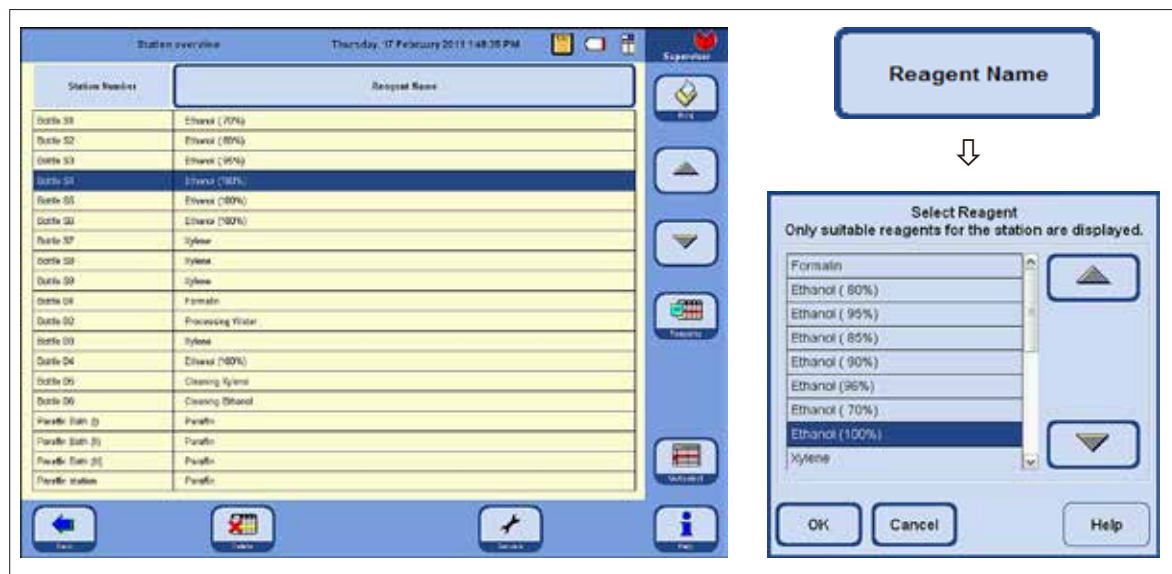

Fig. 147
The **VIEW/EDIT STATIONS** window (Fig. 147) shows a list of all stations with the assigned reagents that have been defined for the respective station.
- In the table, highlight the station that is to be filled with a reagent (Fig. 147).
In this case, the system bottles for ethanol (S1-S6) must be filled according to the pattern shown in Fig. 147. In addition, all six ethanol stations must be defined in the program. The program checks this when it is started. If there is a discrepancy, a warning message appears and the program cannot be started.